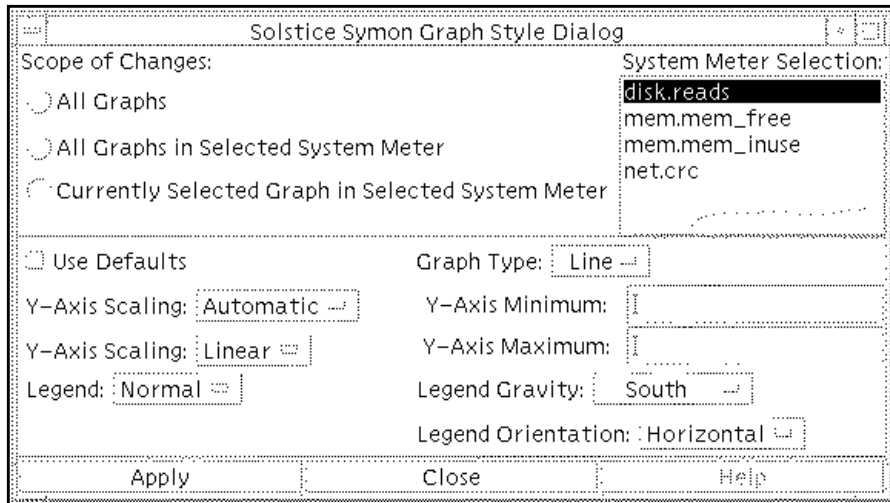

FIGURE 3-21 Graph Style Window Under the View Menu
The Graph Style window is displayed (see FIGURE 3-21).
2. **Select the graphs that you want to change, using the top section of the window (see FIGURE 3-21).**